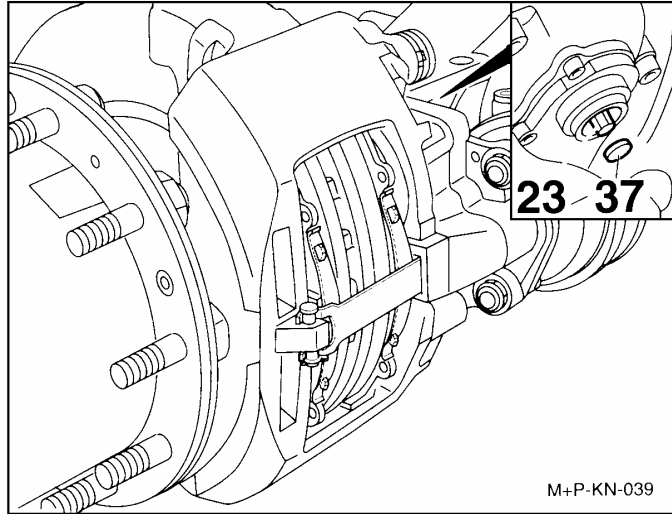

FIGURE 3: ADJUSTER PINION
- a. Remove cap (37).
- b. Using a box wrench (8 mm), turn the adjuster pinion (23) counterclockwise about 2 - 3 clicks to increase running clearance. By operating the braking system about 5 - 10 times (30 PSI or 2 bar), the wrench should turn clockwise in small increments if the adjuster is functioning correctly (fig. 3 and 4).